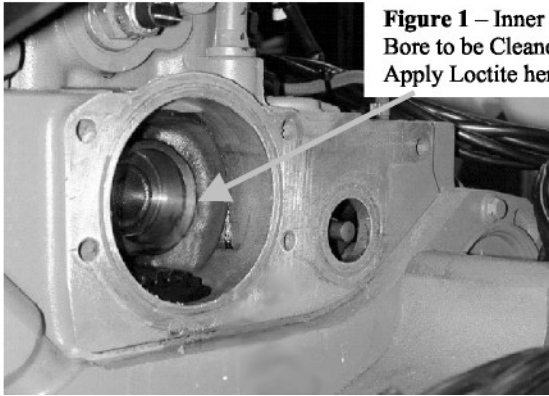

Figure 1 – Inner Bore to be Cleaned. Apply Loctite here.
1. Once the mechanical governor has been removed from the engine, make sure the mounting surface and the inner bore are sufficiently cleaned. See Figure 1
3. Apply Loctite 638 (per Loctite instructions) to the outer surface of the Freeze Plug and to the mating surface of the inner bore. See Figures 1 & 2.